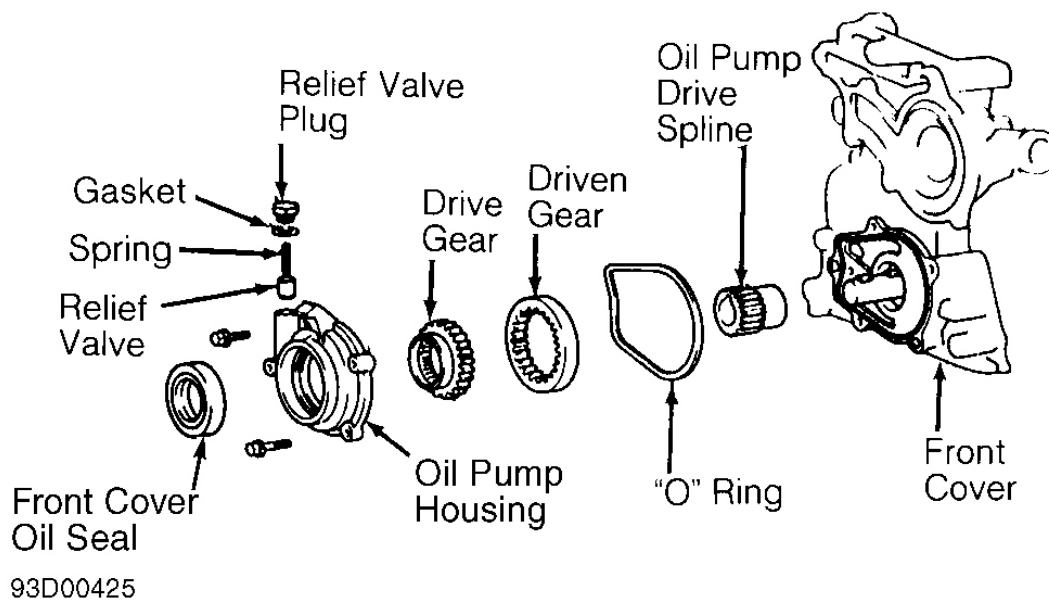

Fig. 17: Exploded View Of Oil Pump & Components
3. Remove A/C compressor with hoses attached and secure aside (if equipped). Remove A/C compressor bracket. Remove bolts, oil pump and "O" ring from front cover. Disassemble oil pump components. See **Fig. 17**.